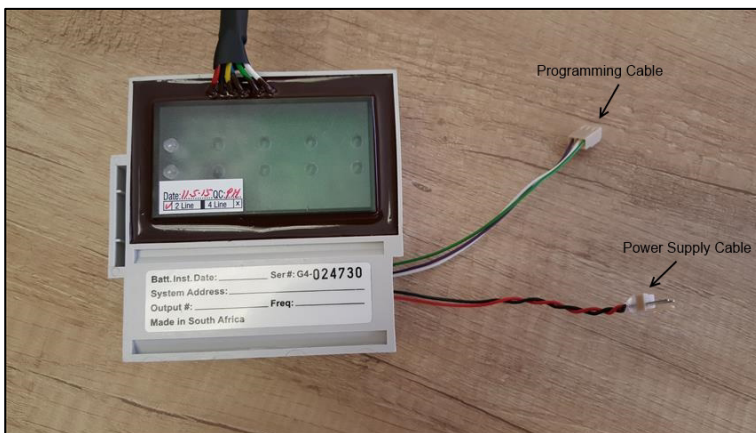

Figure 13: Programming and Power Cables
The Green RTU radio receiver module has two wire looms located in the battery compartment of the module as shown in Figure 13 below. The Green, White and Purple wire loom is used for programming the receiver module using the hand held programmer. The red and black wire loom fitted with the connector plug is the module power point that is to be connected to the battery when power is to be applied.
- Referring to Figure 13 above, extract the battery, battery cable and the programming cable out of the receiver modules battery compartment.